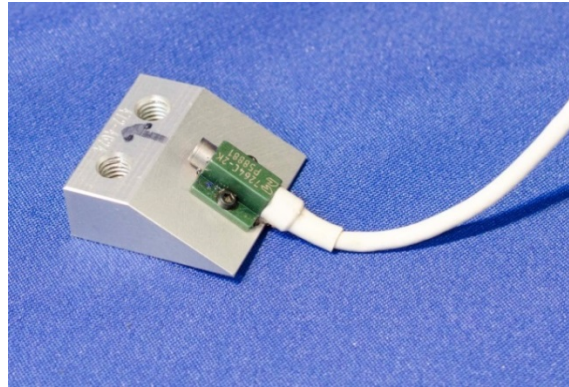

Figure 8-8. Upper abdomen accelerometer installed to mount
- 8.2.2.4 Mount the uniaxial accelerometer to the Upper Abdomen Accelerometer Mount (472-4624) using two M1.4 X 4 SHCS as shown in Figure 8-8. The screws should be snug but be careful not to over-tighten. Orient the electrical cable from the uniaxial accelerometer unit toward the narrow end of the accelerometer mount wedge.